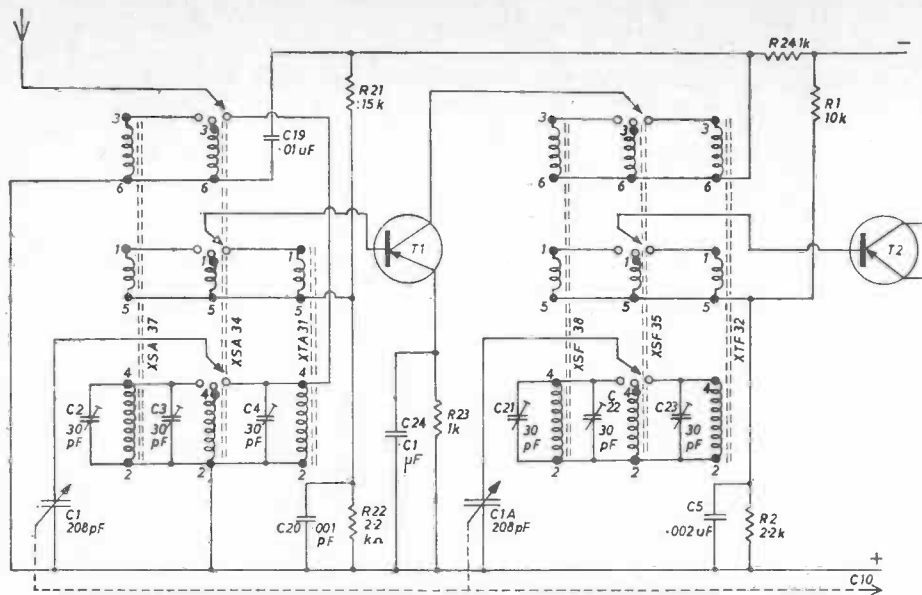

Figure 24. TRANSISTOR SUPERHET RF STAGE
only the schematic (Fig. 24) for I think that if you feel capable of adding this you should be able to do so from their theoretical diagram. You would need another wafer on the switch and another piece of aluminium for screening and mounting the coils. These should come between the two existing wafers so that the aerial wafer remains the first one from the rear and the wafer for the oscillator coils stays nearest the panel.
6. Figure 24: Aerial, H.F. and oscillator stages 3 wave-band Short Wave receiver using two Mullard OC170 or OC169 Transistors, and Jackson Bros. '0' gang (208+176+208 pF) fitted screen.
3. Select a station with the gang almost open full, i.e. the high frequency end of the band, and adjust the aerial trimmer for maximum output. Then the H.F. trimmer for maximum output if using Figure 24.